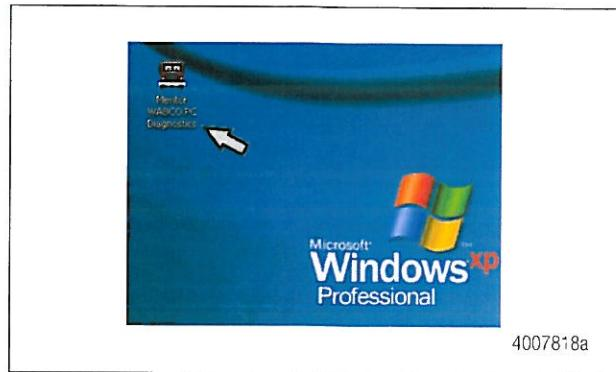

Figure 8
- To access the Meritor WABCO TOOLBOX™ Software, double-click on the Meritor WABCO TOOLBOX™ icon from the desktop. Figure 8.